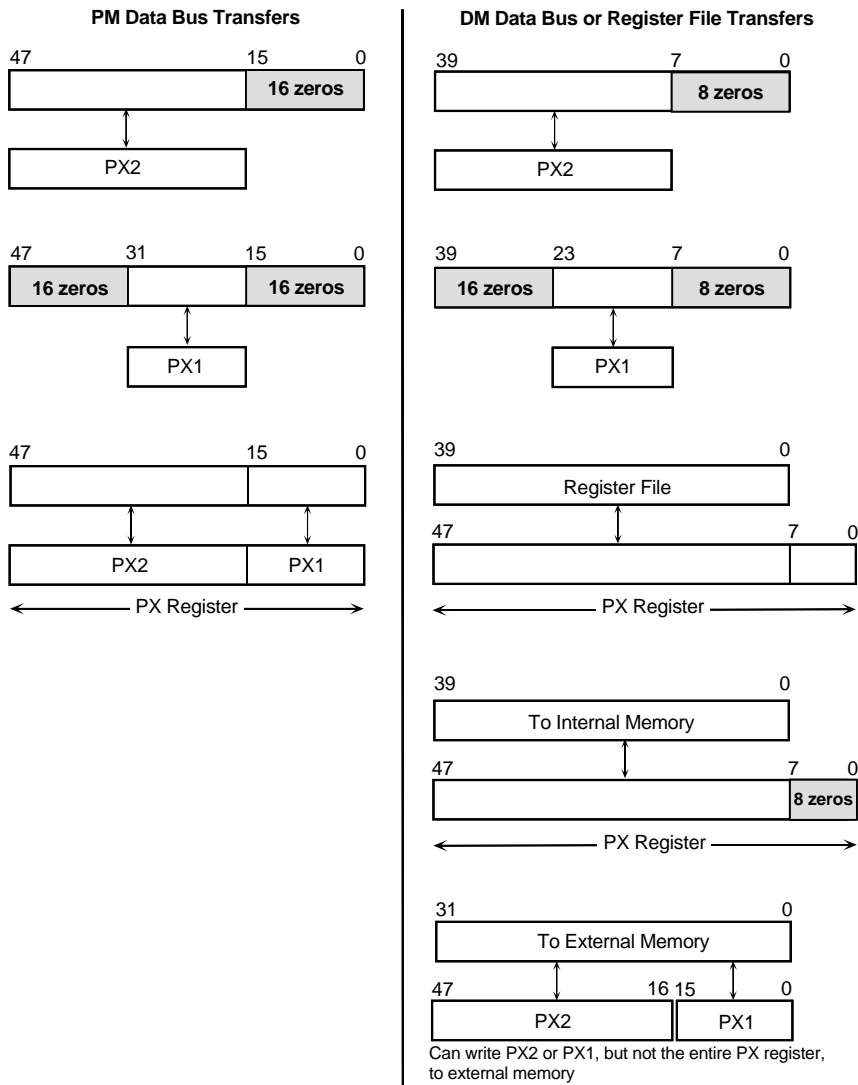

Figure 5-5. PX register transfers
Figure 5-5 shows the data alignment in PX register transfers. Transfers between PX2 and the PM Data Bus use the upper 32 bits of the PM Data Bus. On transfers from PX2, the sixteen LSBs of the PM Data Bus are filled with zeros. Transfers between PX1 and the PM Data Bus use the middle sixteen bits of the PM Data Bus. On transfers from PX1, bits  $PM_{15-0}$  and  $PM_{47-32}$  are filled with zeros (0).
Data transfers between PX2 and the DM Data Bus or Register File use the upper thirty-two bits of the DM Data Bus or Register File. On transfers from PX2, the eight LSBs are filled with zeros (0). (See Figure 5-5 on page 5-13.) Data transfers between PX1 and the DM Data Bus or Register File use bits DM23-8 of the DM Data Bus are used. On transfers from PX1, bits DM7-0 and DM39-24 are filled with zeros (0).